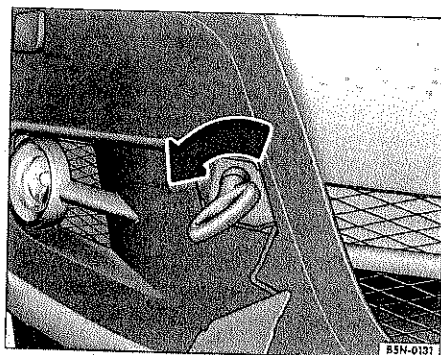

Fig. 44 The front right section of the vehicle: screwing in the towing eye.
- Screw the towing eye as far as it will go into the threaded hole ⇒ page 98, fig. 44 (inset). Use the lug wrench to tighten the towing eye ⇒ ⓘ.